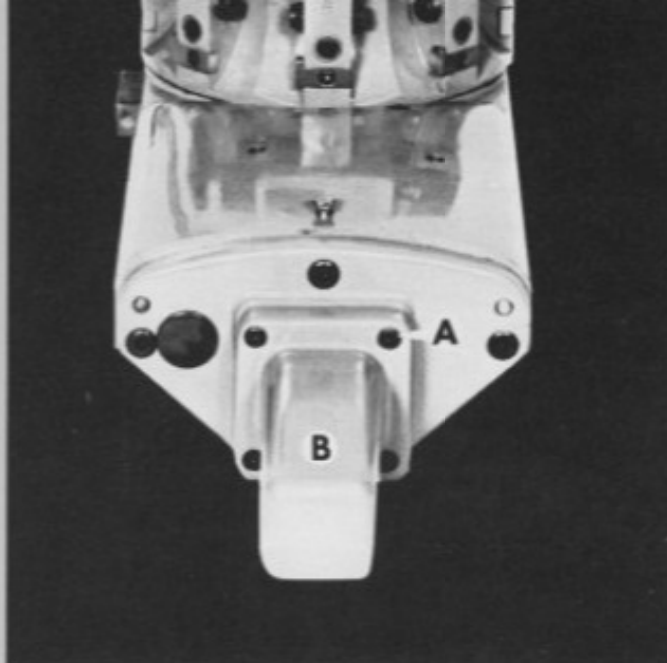

Figure 81 — Cover for Cross Feed Screw Nut
- Remove four screws "A", Figure 81, and cover "B".